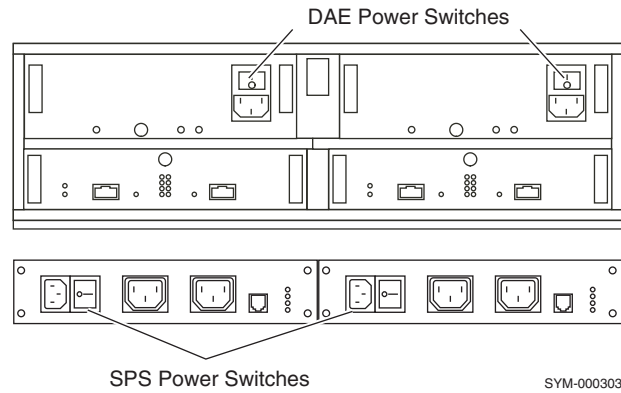

Figure B-4 DAE and SPS Power Switches
2. Ensure that all DAE and SPS power switches (shown in Figure B-4) are in the ON (1) position.